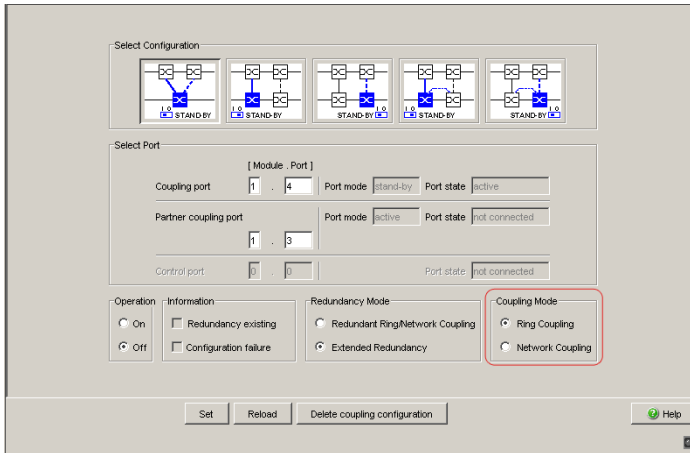

Figure 25: Selecting the coupling mode
- In the “Coupling Mode” frame, select (see figure 25)